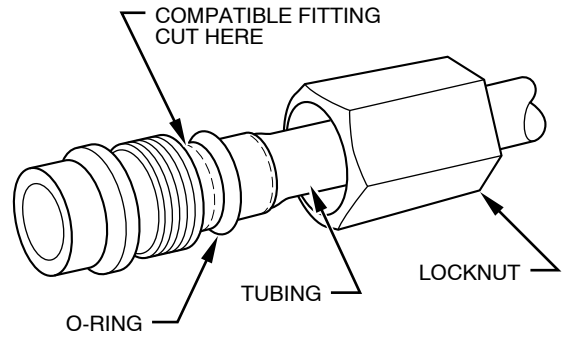

Fig. 2 - Repair of Mechanical Connection
2. Back lock nut off compatible fitting onto tube at indoor evaporator coil. (See Fig. 2.)